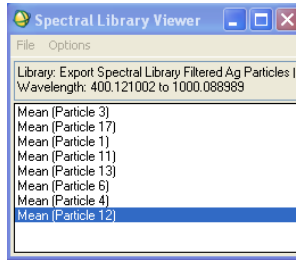

Figure 6. Library Viewer
4. From the Available Bands List, right click the file and select the Spectral Library Viewer and the Spectral Library Viewer dialogue box opens (see Figure 6). The spectral curves of the particles that have wavelengths between 475 nm and 525 nm are listed. Click on the Means of each particle and a spectral library plot of these is shown (see Figure 7). Right click on the plot and select plot key (if needed).